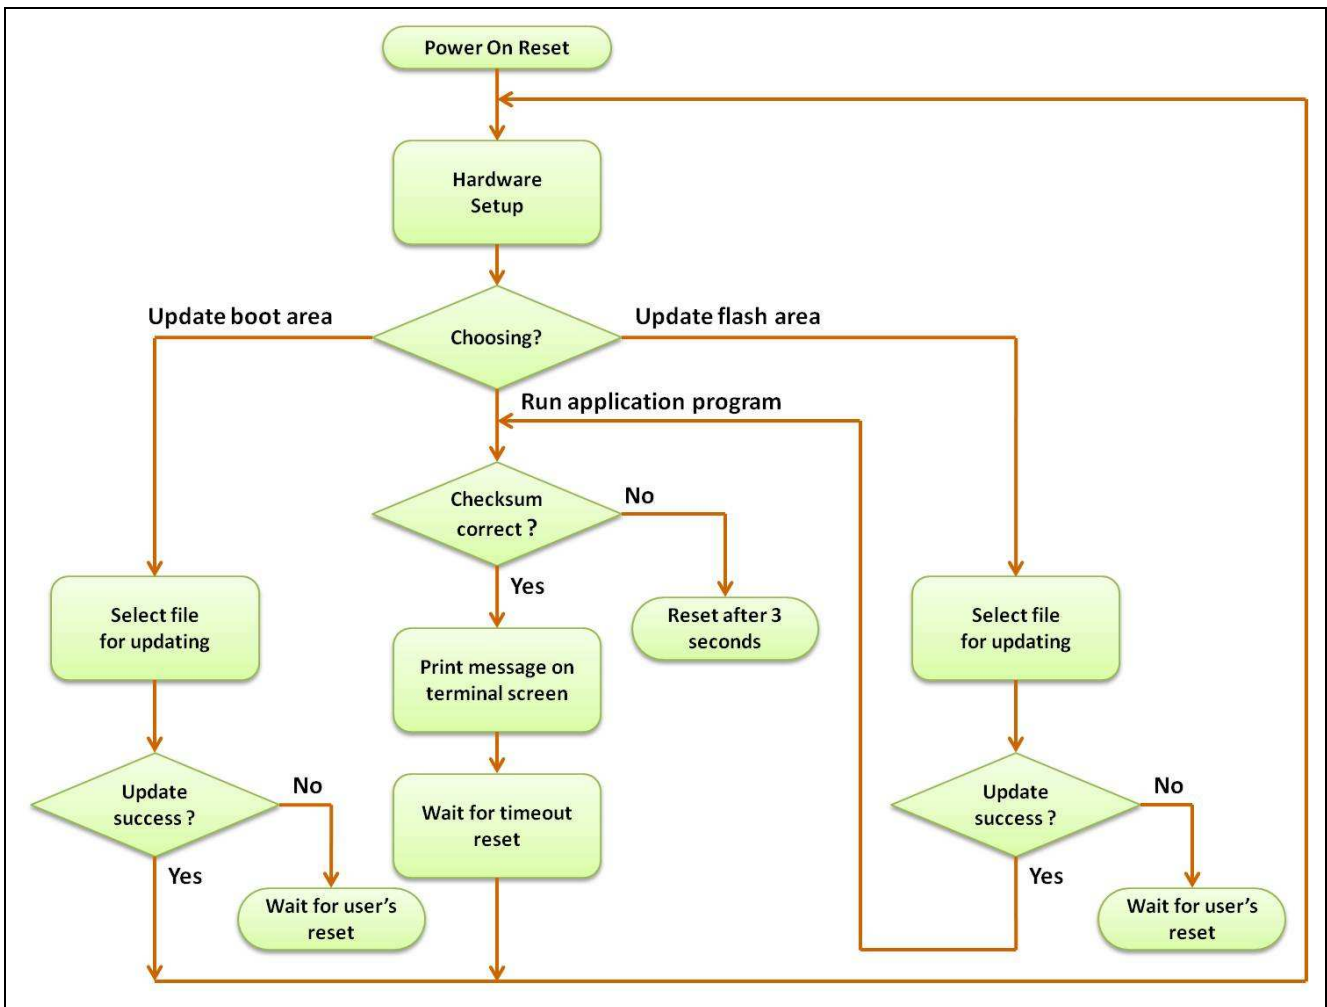

Figure 14 Flow chart
- The flow chart² of this example program is shown in Figure 14.